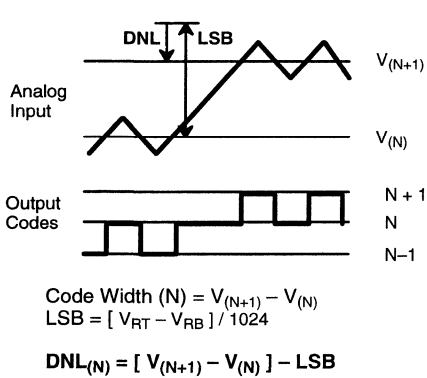
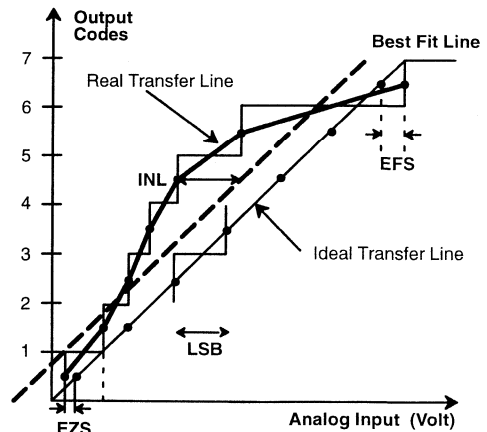

Figure 3. DNL Measurement
Figure 4. INL Error Calculation
- Tester measures code transitions by dithering the voltage of the analog input (V_{IN}). The difference between the measured and the ideal code width ($V_{REF}/1024$) is the DNL error (Figure 3.). The INL error is the maximum distance (in LSBs) from the best fit line to any transition voltage (Figure 4.). Accuracy is a function of the sampling rate (FS).